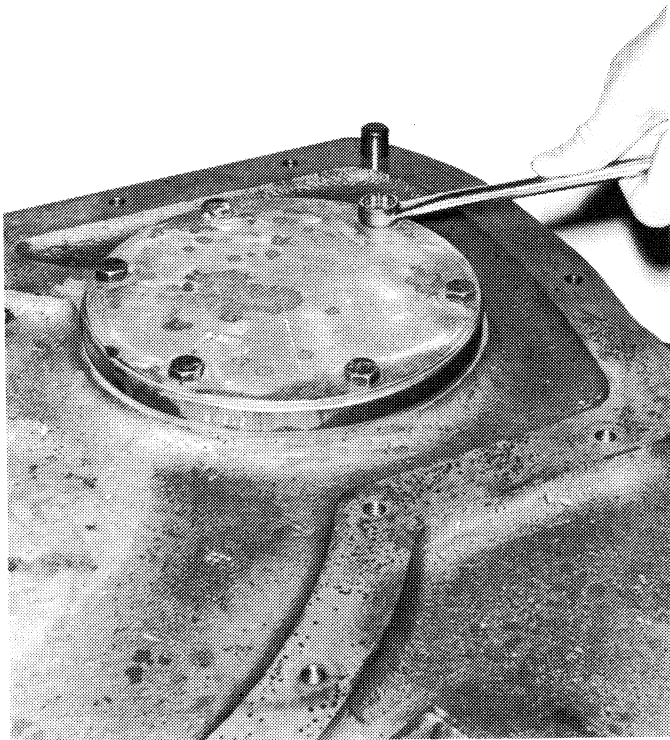

Figure 6-5. Removing or Installing Reverse Shaft Cover.
11. Remove six hex-head screws (Figure 12-3, 1) from the reverse shaft cover (2) and remove the cover, O-ring (3), reverse bearing retainer (4), shims (5), and O-ring (6). See Figures 6-5 and 6-6.